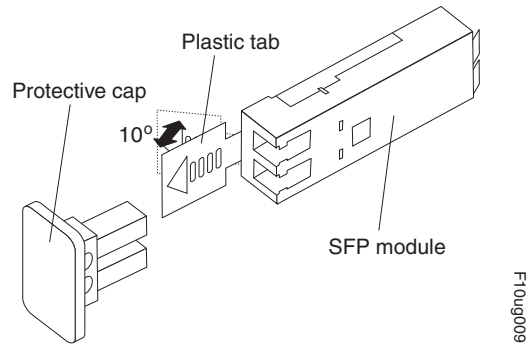

Figure 27. Unlocking the SFP module latch - plastic variety
- For SFP modules that contain plastic tabs, unlock the SFP module latch by pulling the plastic tab outward 10°, as shown in Figure 27 on page 51.